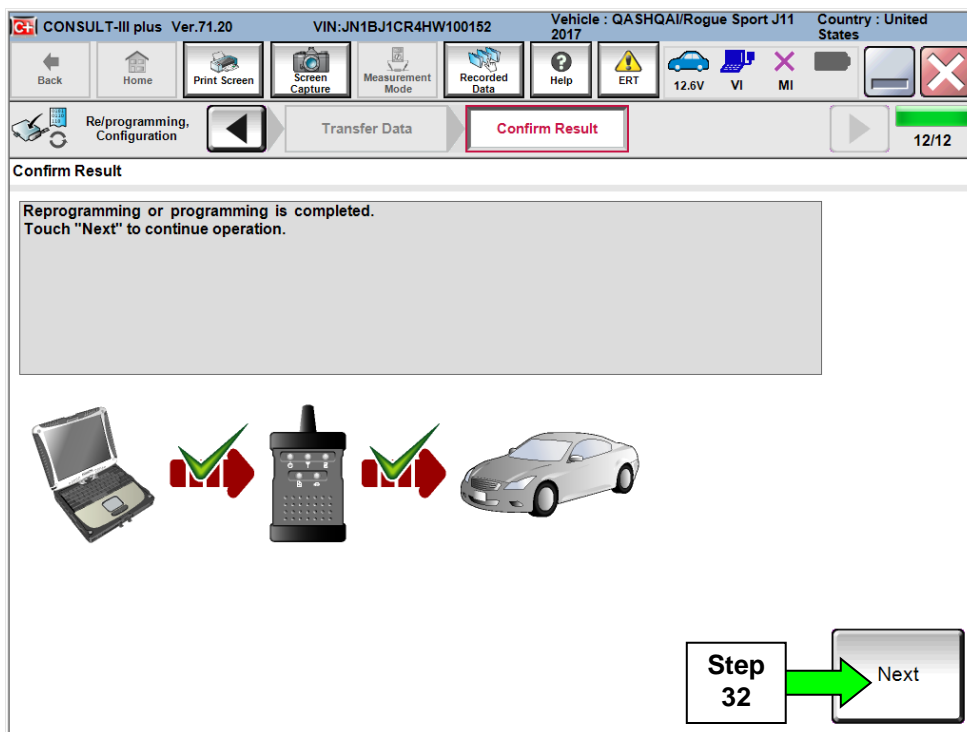

Figure 17
31. When the screen in Figure 17 displays, the reprogramming is complete.
**NOTE:** If the screen in Figure 17 does not display (reprogramming does not complete), refer to the information on the next page.